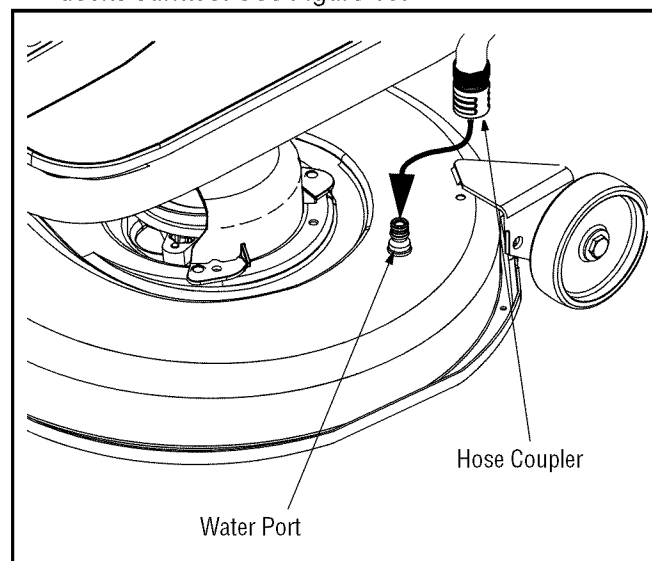

Figure 19
- Attach the hose coupler to the water port on your decks surface. See Figure 19.